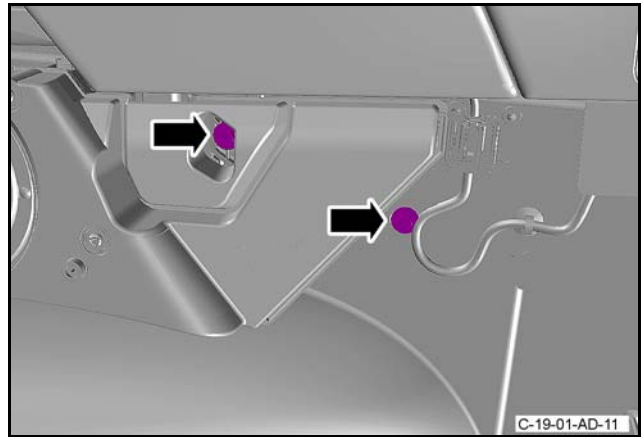

Figure 16
- 34. Install the two screws that attach the footwell speaker (refer to Figure 16).